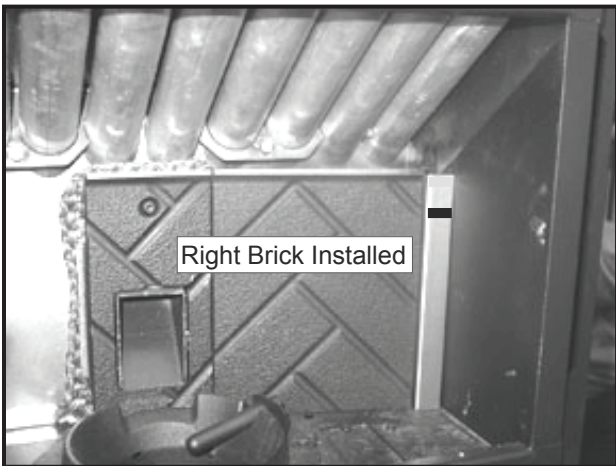

Figure 24.2
5. Insert baffle into top front of firebox and then raise up the bottom end and insert baffle tab into notch on the right bracket to lock into place. **Figure 24.2.** Place the left side hook of the bottom baffle over the top of brick for stability.